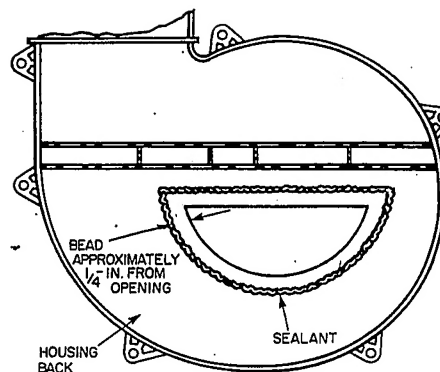

Fig. 9—Backside of Inducer Assembly Housing
- b. Apply sealant releasing agent (Pam) to collector box. (See Fig. 9.)